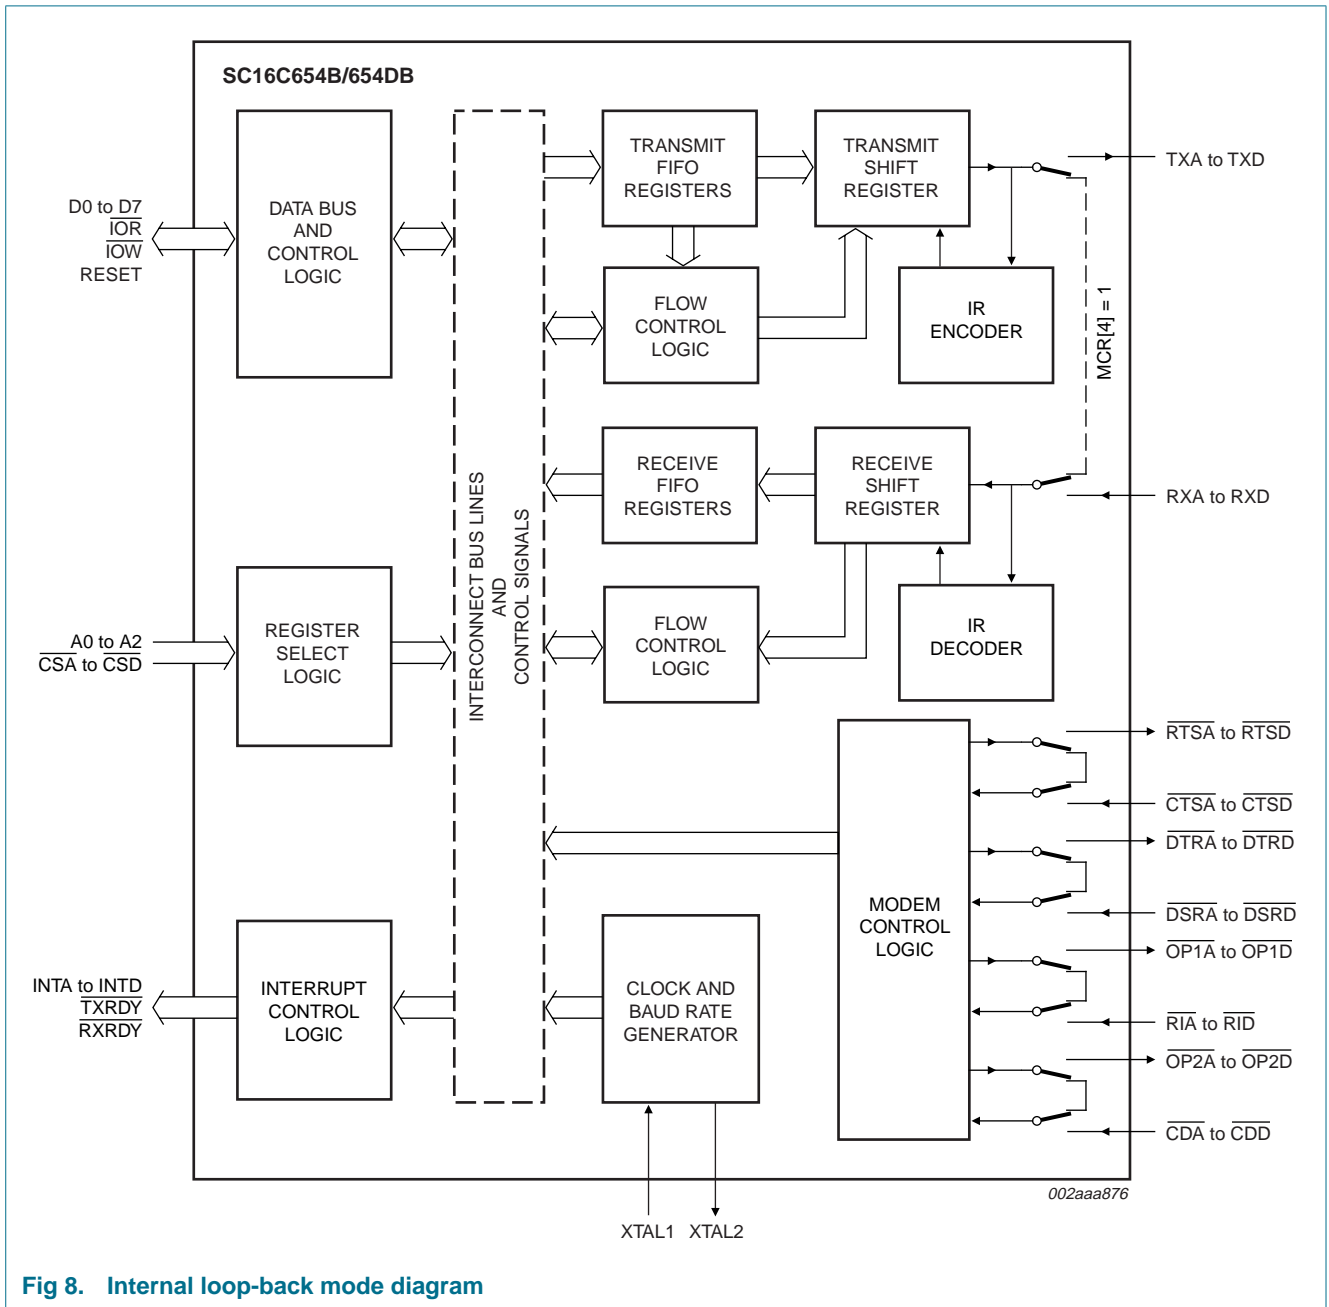

Fig 8. Internal loop-back mode diagram
The internal loop-back capability allows on-board diagnostics. In the loop-back mode, the normal modem interface pins are disconnected and reconfigured for loop-back internally. MCR[0:3] register bits are used for controlling loop-back diagnostic testing. In the loop-back mode, OP1 and OP2 in the MCR register (bits 2:3) control the modem \overline{RI} and \overline{CD} inputs, respectively. MCR signals \overline{DTR} and \overline{RTS} (bits 0:1) are used to control the modem \overline{DSR} and \overline{CTS} inputs, respectively. The transmitter output (TX) and the receiver input (RX) are disconnected from their associated interface pins, and instead are connected together internally (see Figure 8). The \overline{CTS} , \overline{DSR} , \overline{CD} , and \overline{RI} are disconnected from their normal modem control input pins, and instead are connected internally to \overline{RTS} , \overline{DTR} , $\overline{OP2}$ and $\overline{OP1}$. Loop-back test data is entered into the transmit holding register via the user data bus interface, D[0:7]. The transmit UART serializes the data and passes the serial data to the receive UART via the internal loop-back connection. The receive UART converts the serial data back into parallel data that is then made available at the user data interface D[0:7]. The user optionally compares the received data to the initial transmitted data for verifying error-free operation of the UART TX/RX circuits.